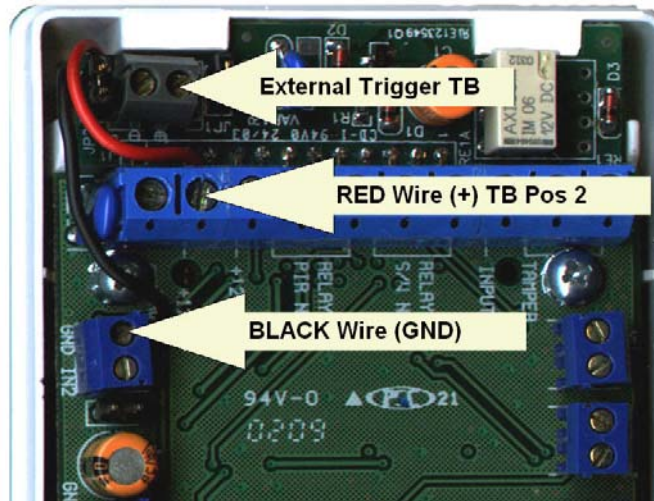

Figure 3 Wire Routing and Power Connection Diagram
(Refer to Figure 3). Do not tighten the screw at this time.
7. Using Figure 1 to Figure 3 as a guide, gently insert the Mobile Module pins 1 to 7, fully into the main terminal block positions 1 to 7. Insert Pin1 of the Mobile Module into the MemoCam main terminal block position 1.
9. Thread the **Black** wire (GND) through the aperture in the rear plastic cover, and then connect it to the **GND** terminal as shown in Figure 3.
*It is important to route the new power wires as shown in **Figure 3**, otherwise the wires may be damaged when re-installing the boards and closing the top cover.*
3. Remove the two power wires. Refer to **Figure 3**.